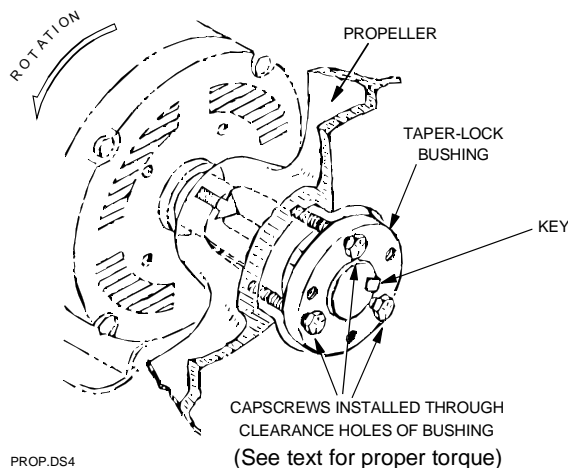

Fig. 7-7 Capscrew arrangement for reassembly
**CLEARANCE HOLES** - When reassembling parts, the cap screws must be installed through the UNTAPPED CLEARANCE HOLES, as shown in Fig. 7-7, to cause the propeller to be pulled forward onto the tapered bushing, thus locking the parts securely onto the motor shaft. Refer to Installation heading for assembly details.